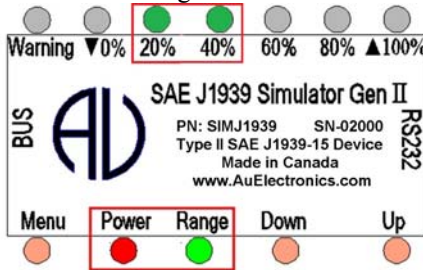

Figure 3-4 Power, Range, 20%, 40% LED on, indicates data ranges from 41% to 59%
- If keep pressing **Up** button, the control step value will keep rising, 20% and 40% LED will be always on, as shown in Figure 3-4. It indicates the data range from 41% to 59%.